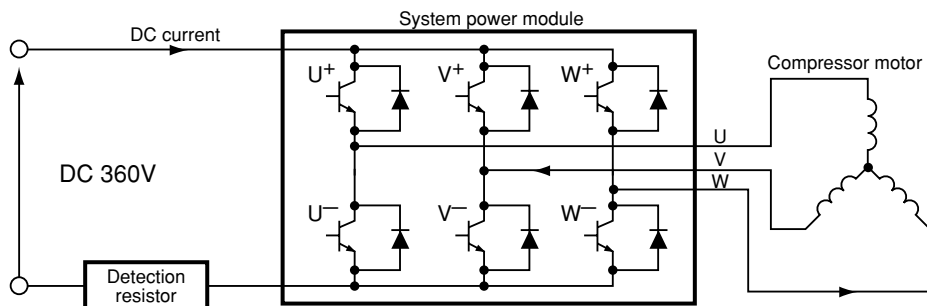

Fig. 8-6
(1) As shown in Fig. 8-6, U⁺ and V⁻ transistors on power module are turned on to apply current to winding of motor.